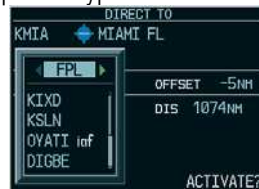

Figure 7-8 Flight Plan Waypoint List (PFD)
- 2) Turn the small **FMS** Knob to the left to display a list of flight plan waypoints as shown in Figure 7-8.
- 2) Turn the small **FMS** Knob to the left. Initially, a flight plan waypoint list is displayed as in Figure 7-8. The list is only populated when navigating a flight plan.